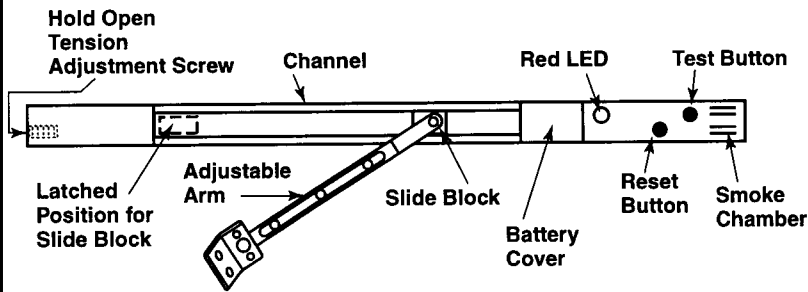

Figure 1
1. Remove battery compartment cover (see Fig. 1) and install alkaline 9-volt battery. (The red LED should now flash once every second and the motor will run briefly.)
12. Move the slide block to the latched position (see Fig. 1).
21. If desired, adjust hold open tension by turning adjustment screw clockwise to increase or counterclockwise to decrease (see Fig. 1).